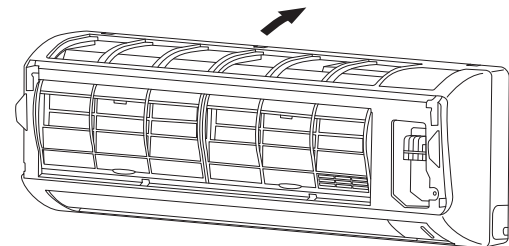

Fig. 3-43
- (1) When installing the grille, place the bottom of the grille into the frame first. (Fig. 3-43)